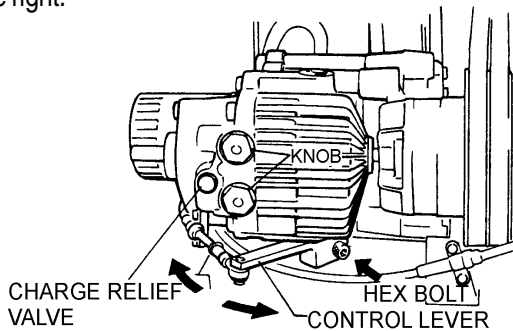

Figure 39. Unscrewing Left Lock Nut
1. Loosen the hex socket head bolt M10 used for mounting the control lever on the underside of the transmission (Figure 39).